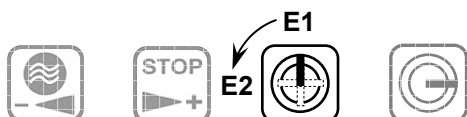

Fig. 4.6 A The key is in position E2.
2. Turn the key on the programming key switch from position E1 to position TS (cf. Fig. 4.6 A). The edge of the programming key switch blinks red. The key can be removed into this position.